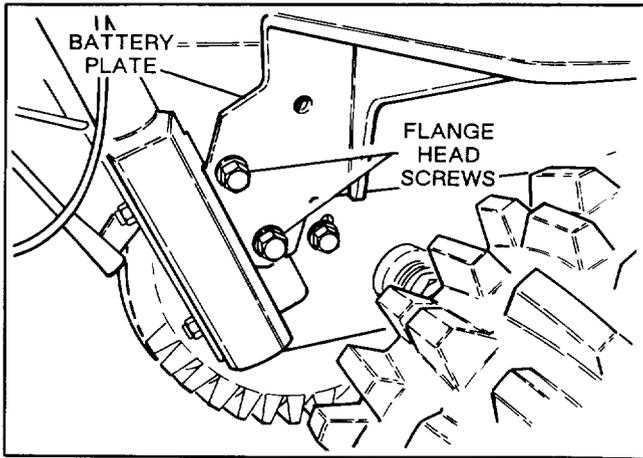

Figure 9
10. For easier access, tip unit on end and remove right wheel. Secure rear of battery mounting plate and handle bracket to engine frame with two 19 mm ($\frac{3}{4}$ ") lg. flange head screws (Fig. 9).